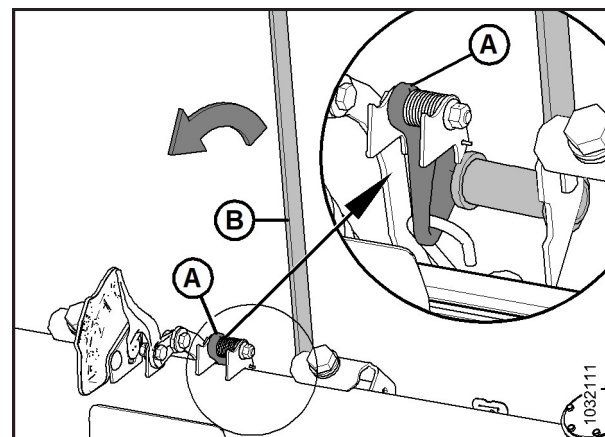

Figure 4: Checking Float – Left Side Shown, View from Rear
**NOTE:** Oil reservoir tank made transparent in Figure 4 to show tool engaged on the float setting lever at the front of the header.
- Lift float setting lever (A) by hand to remove any slack.
- Place tool (B) on the float setting lever. The tool should be slightly angled towards the front of the header.
- Pull down on tool (B) towards the back of the header until lever (A) is over center and will not return to its original position. Remove the tool and repeat on the opposite side. It is important that float setting levers on both sides are engaged while adjusting.